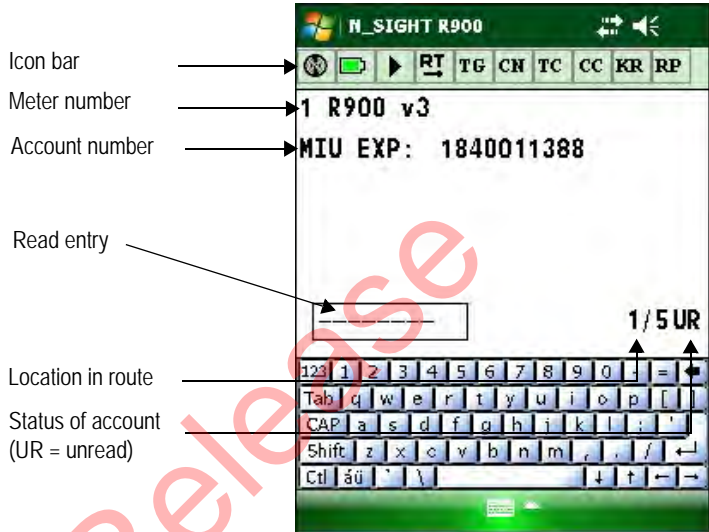

Figure 6.1 N\_SIGHT R900 Reading Entry Screen
- 1 If you have not already done so, first log into N\_SIGHT R900 on the handheld, so that a reading-entry screen is appears in the display. See Figure 6.1 on Page 6-2.